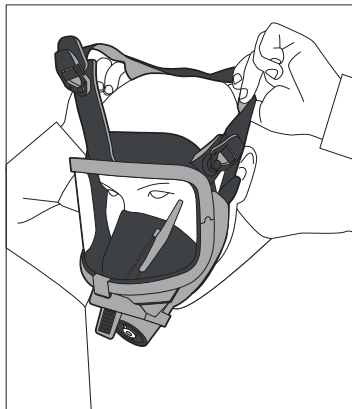

Fig. 2
3. Put your chin into the mask and pull the head harness straps over your head (figure 2). Pulling the straps, make sure that the head harness is correctly seated and not twisted.